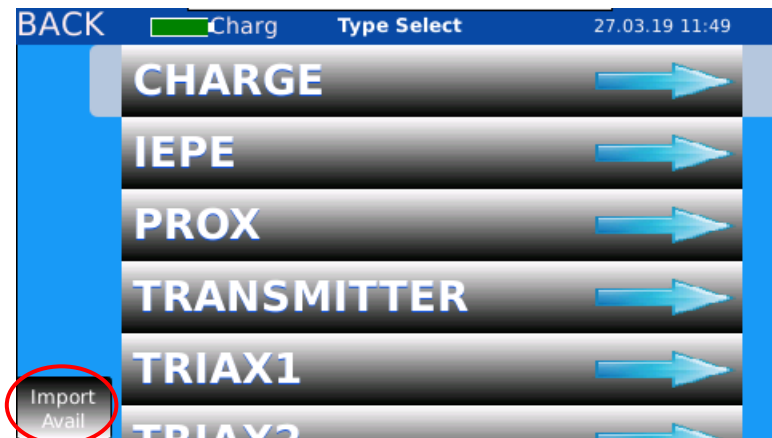

Figure 6. “Import Avail” appears in the bottom left corner.
- d. “Import Avail” will appear in the bottom left corner of the screen, indicating that an import is available from the USB stick. Tap “Import Avail” to import custom sensors (*Figure 6*).